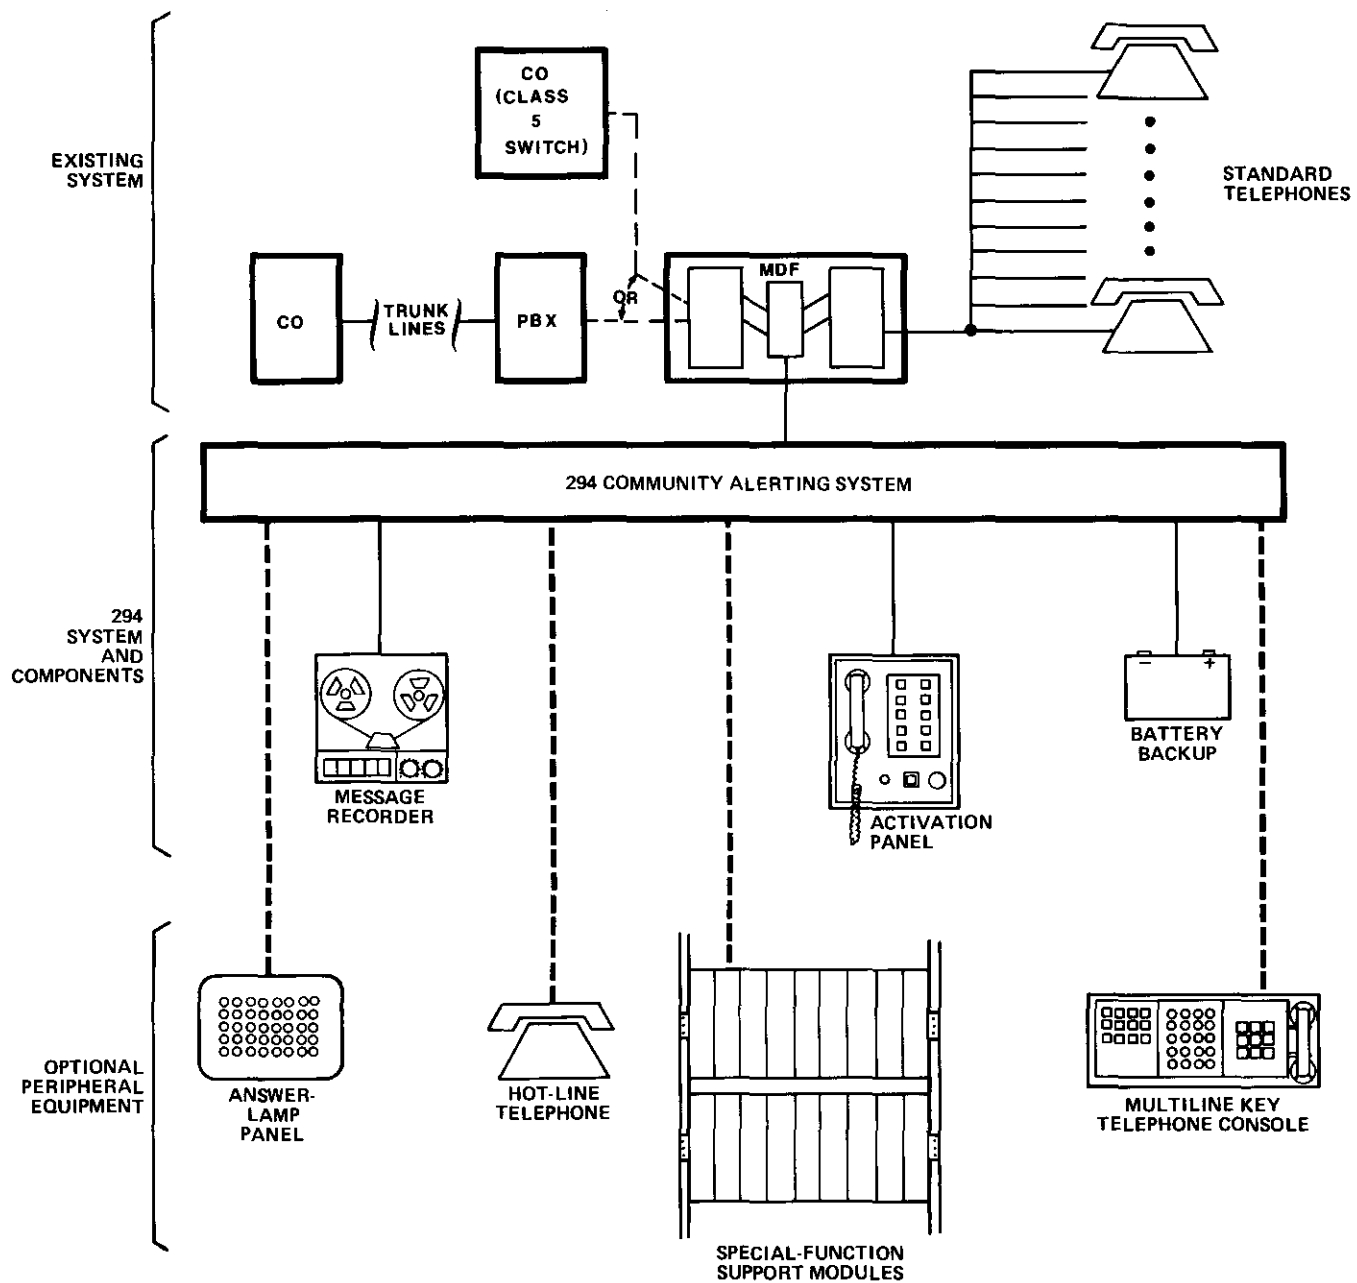

figure 9. 294 System with peripheral equipment
3.01 Because requirements for alerting systems are extremely varied, the 294 Community Alerting System is designed with maximum adaptability for interfacing peripheral equipment. The 294 System provides a basic framework that can interface a variety of other equipment. Tellabs' Applications Engineering Group can specify the required peripheral equipment for your particular application. This allows maximum flexibility in System design so that all your requirements can be met without any unnecessary equipment being included. Please call Tellabs Customer Service at one of the telephone numbers listed in paragraph 7.02 for a specific System design proposal. Figure 9 shows one possible 294 System application with various peripheral equipment.